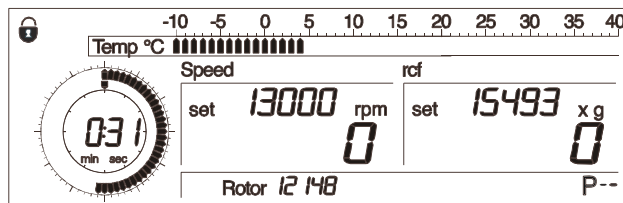

Fig. 5.21: Padlock symbol
- Turn the left rotary knob until a padlock symbol is displayed in the upper left corner of the display (Fig. 5.21).
After the activation of the function, the padlock symbol (Fig. 5.21) will flash. Now the centrifuge can be started and stopped, but the settings cannot be changed.